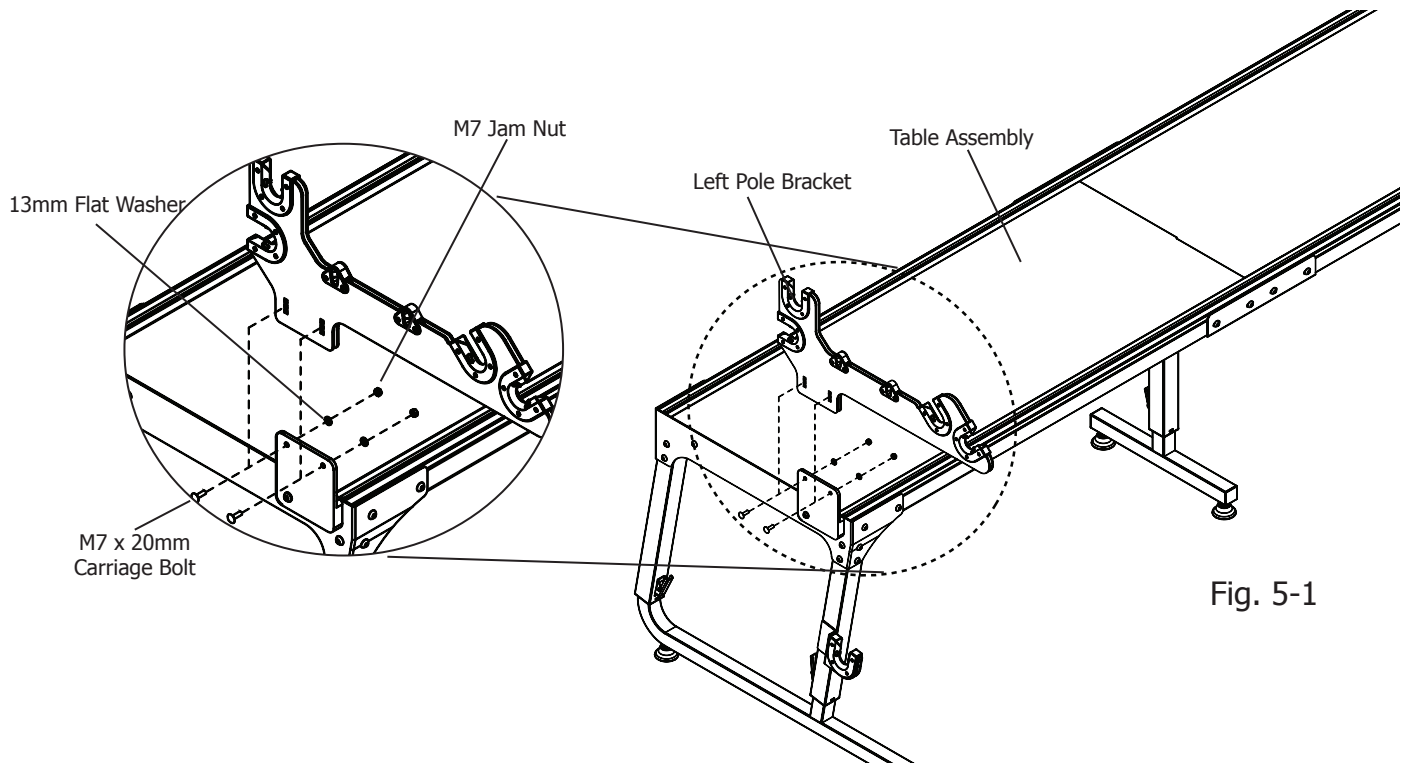

Fig. 5-1
5-1: Attach the left pole bracket to the frame using two (2) M7 x 10mm carriage bolts. On the end of each bolt, slide a flat washer followed by jam nut, as shown on the next page in Fig. 5-1.